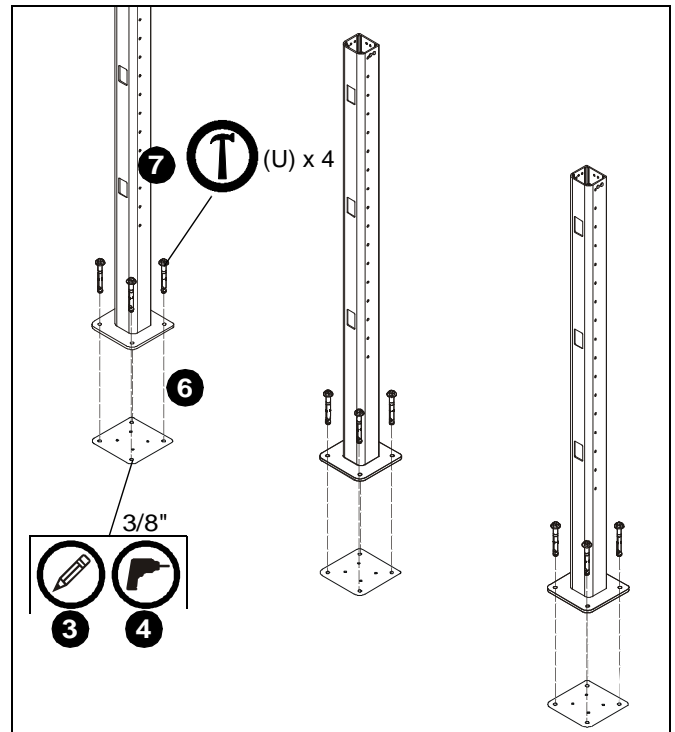
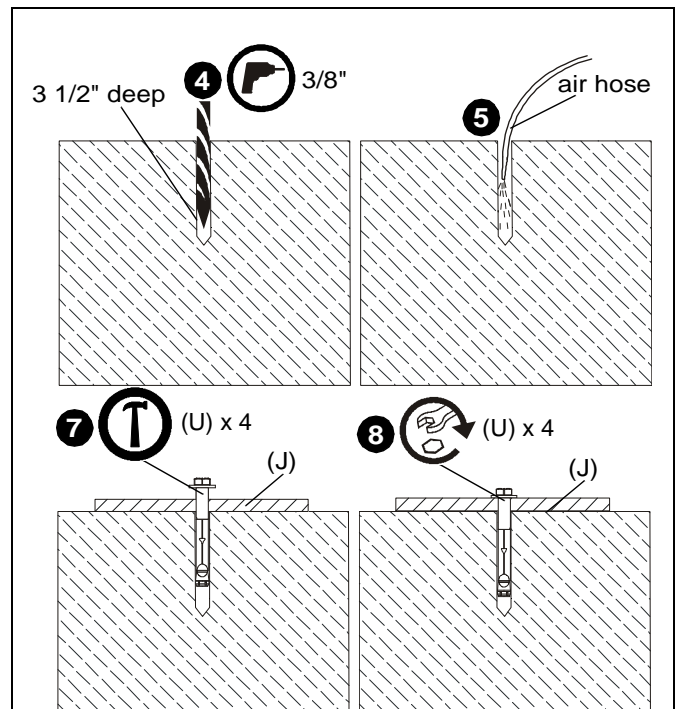

Figure 2
Figure 3
3. Using bolt down plates (J) as templates, mark four holes at outside hole locations for each column. (See Figure 2)
4. Using a 3/8" drill bit, drill a hole 3 1/2" in depth at each marked location. (See Figure 2) and (See Figure 3)
5. Blow each hole clean of any concrete debris with a large air hose or compressed air in a can. (See Figure 3)
6. Place each bolt down plate (J) on top of drilled holes making sure holes on plate are aligned with drilled holes. (See Figure 3)
7. Use a hammer to drive anchors (U) through plate holes into the drilled holes until the bolt head is firmly seated against the plate. (See Figure 2) and (See Figure 3)
8. Tighten each anchor by turning the head three to four turns past finger tight. (See Figure 3)